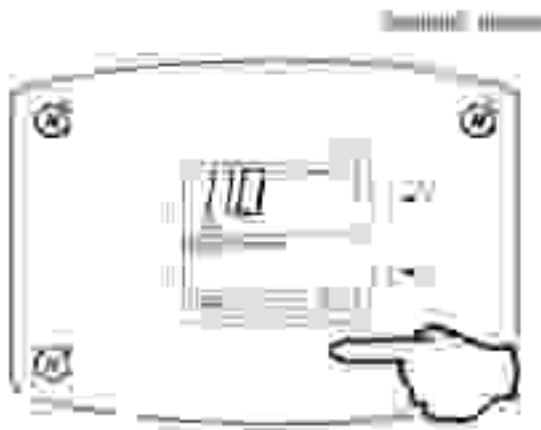

Fig. 58
4. To lower the temperature setpoint, press the 'Temperature Down' button until the desired temperature is shown on the water heater display (Fig. 58).